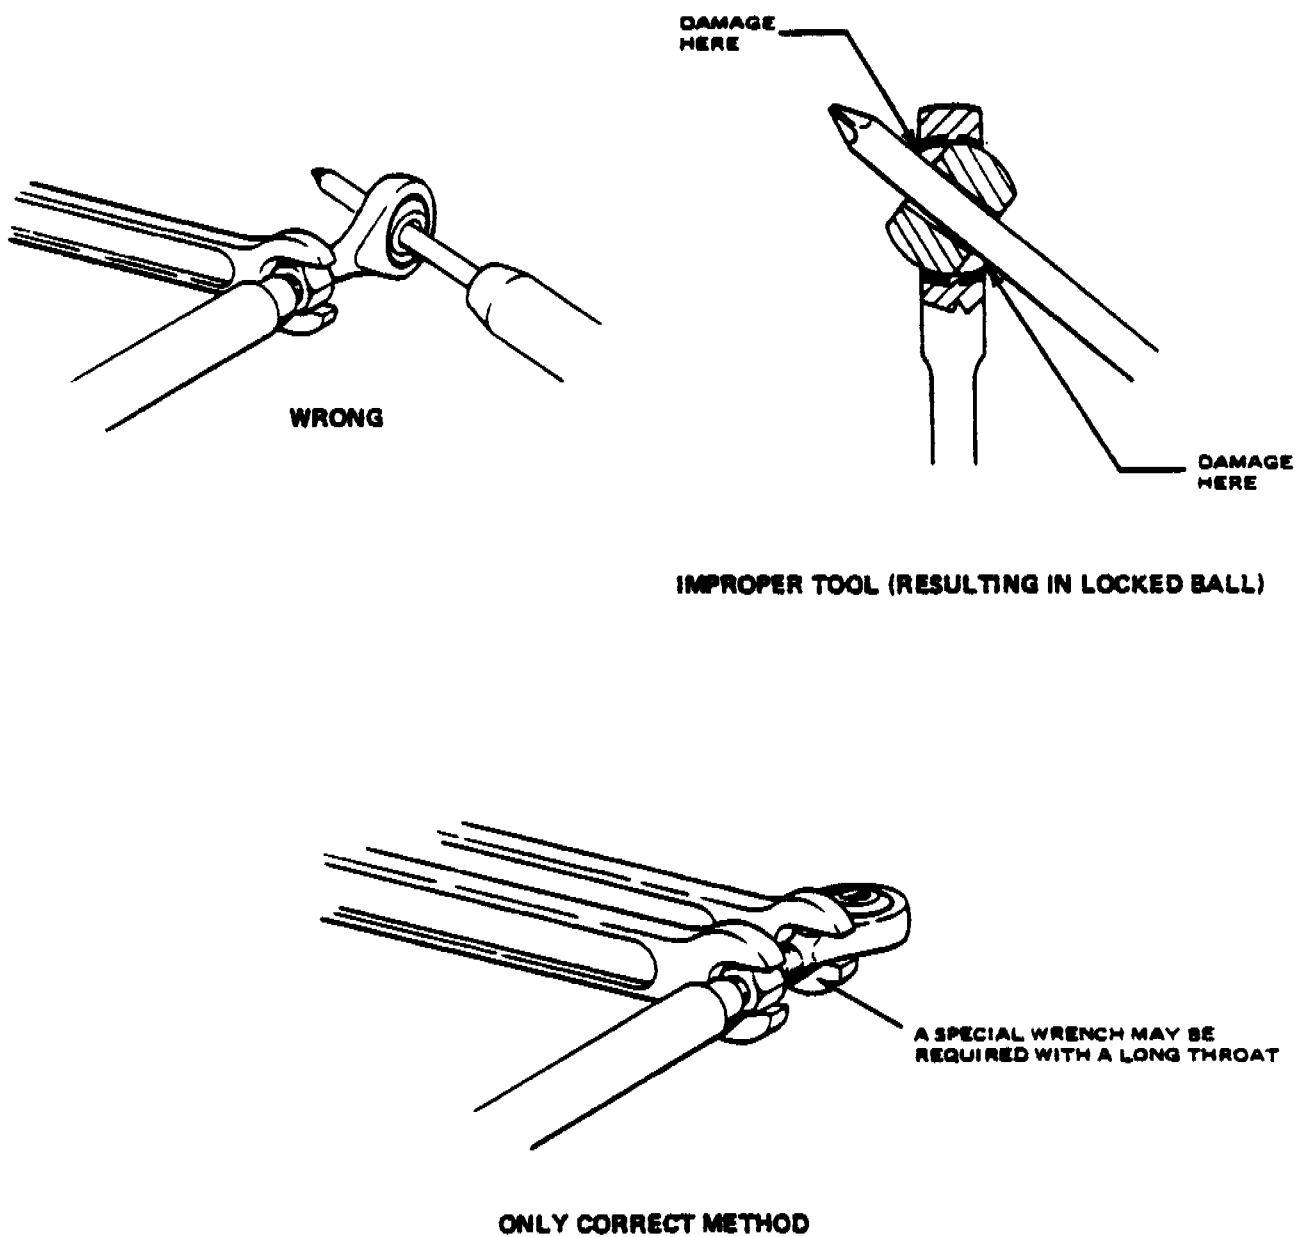

FIGURE 5-1a. CORRECT METHOD OF INSTALLING ROD END BEARINGS
- i. When installing rod end jam nuts, refer to Figure 5-1a for proper installation method.